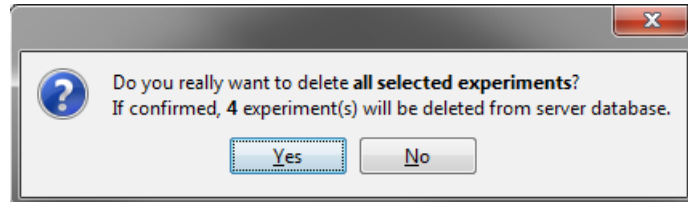

Fig. 8: Experiment delete confirmation
- **<Ctrl>-<Shift>-<Delete>** key pressed – After confirmation, all experiments in panel are deleted. (Fig. 8)